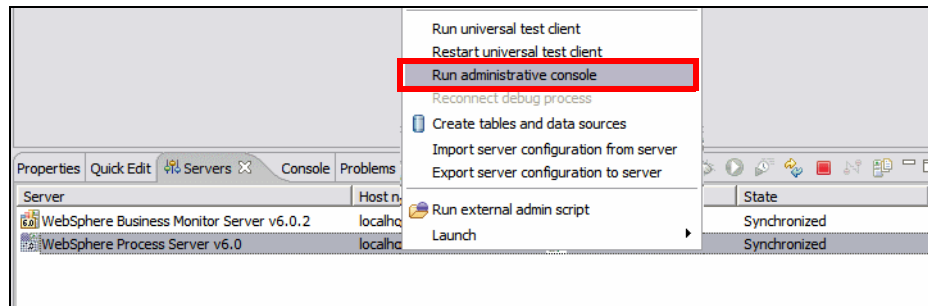

Figure 10-6 Start administrative console
- ▶ Start the administrative console by selecting the server and *Run administrative console* (context menu, Figure 10-6).